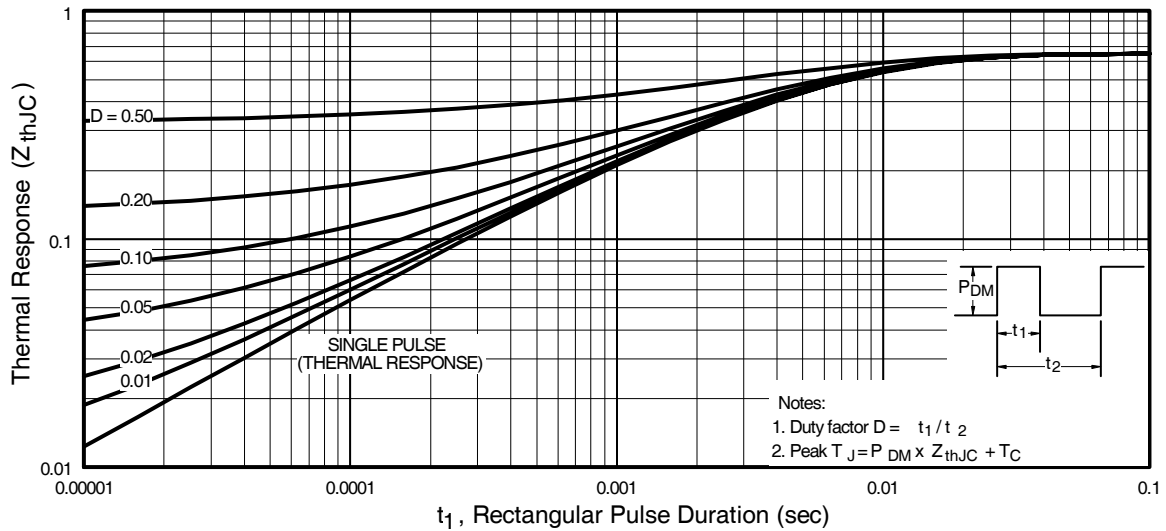

Fig 11. Maximum Effective Transient Thermal Impedance, Junction-to-Case
- ① Repetitive rating; pulse width limited by max. junction temperature. (See fig. 11)
- ② Starting $T_J = 25^\circ\text{C}$, $L = 370\mu H$